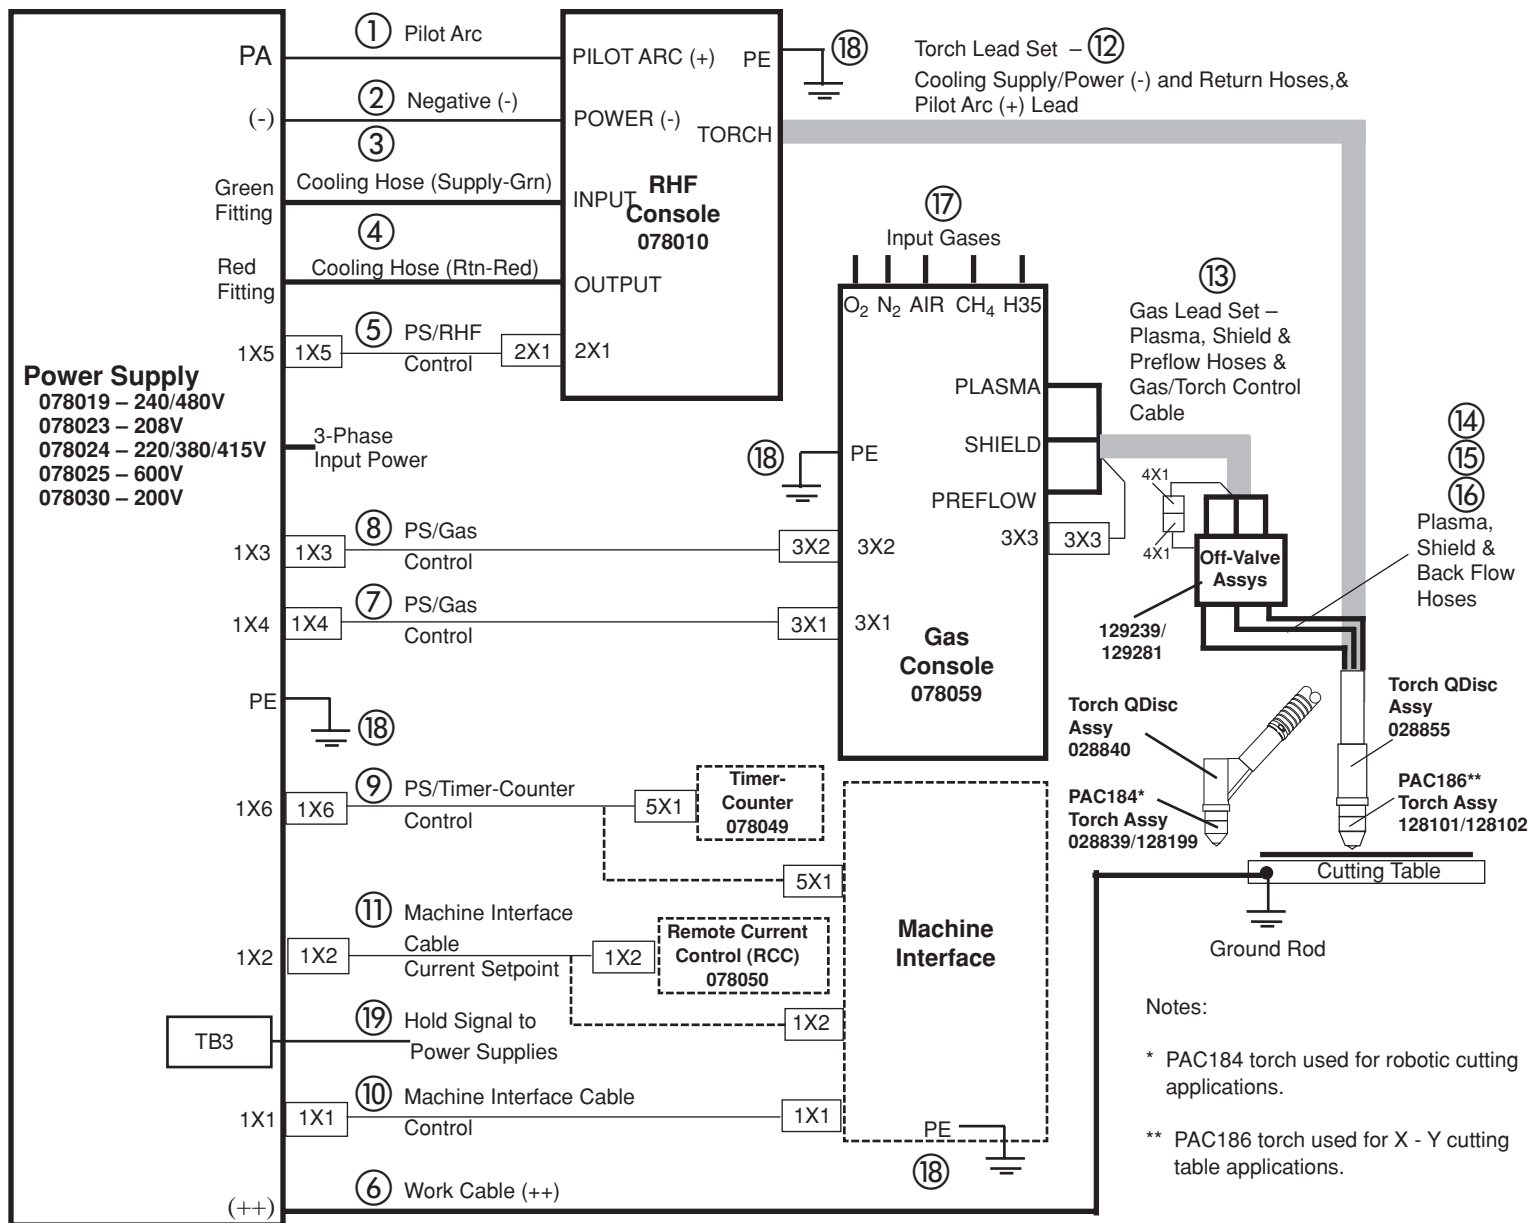

Figure 3-8 HD3070 System with Manual Gas Console Interconnect Diagram
The following cable, hose and lead set interconnecting procedures are supported by the system interconnection diagram, Figure 3-8. Also provided are illustrations of each unit showing where the connections are to be made and illustrations of the cables, hoses and lead sets.
1. Route one end of the cable through the feed-thru on the rear of the power supply and connect to the work (++) terminal (Figure 3-8).
2. Connect the other end of the cable to the work table ground rod or to the work table. Make sure that good metal-to-metal contact has been made (Figure 3-8).